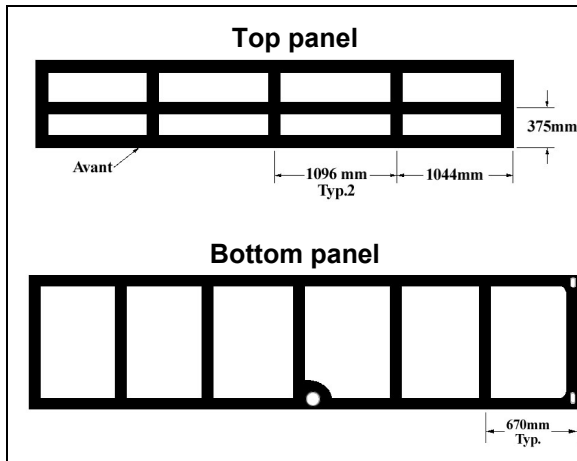

FIGURE 46 : TOP AND BOTTOM PANEL INSTALLATION - SIKA 206 G+P APPLICATION
3. Apply Sika 206 G+P on panel as shown in figure 46